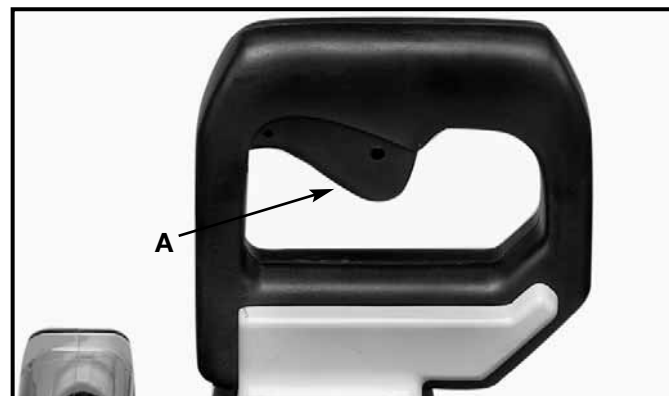

Fig. 11
To start the machine, depress switch trigger (A) Fig. 11. To stop the machine, release the switch trigger.
This saw is equipped with an automatic electric blade brake. As soon as the switch trigger (A) Fig. 11 is released, the electric brake is activated and stops the blade.
⚠ WARNING A TURNING SAW BLADE CAN BE DANGEROUS. AFTER COMPLETING THE CUT, RELEASE THE SWITCH TRIGGER (A) FIG. 11 TO ACTIVATE BLADE BRAKE. KEEP CUTTINGHEAD DOWN UNTIL THE BLADE HAS COME TO A COMPLETE STOP.